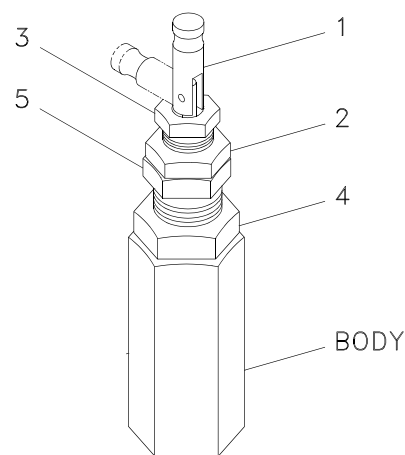

Figure 6-2. Pilot Valve (ALP-V403)
6.3.9 ADJUSTING COMPRESSOR PILOT VALVE (ALP-V403). (Refer to Figure 6-2)